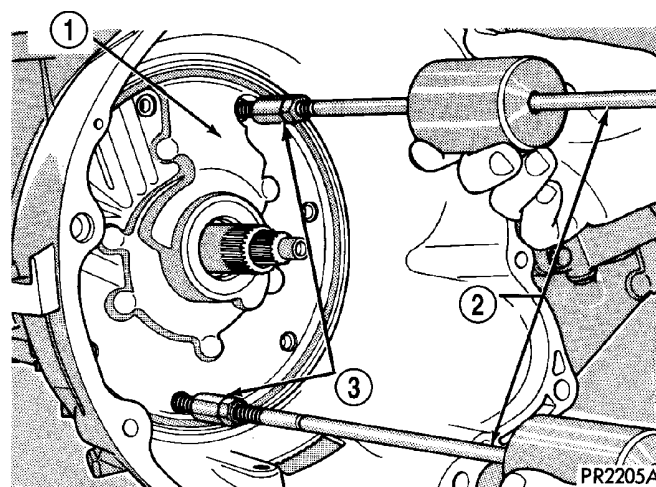

Fig. 27 Install Tool C-3752 with Adapters L-4437
- 2 - PUMP ATTACHING BOLTS (7)
(27) Install Tool C-3752 and adapters L-4437 as shown in (Fig. 27).